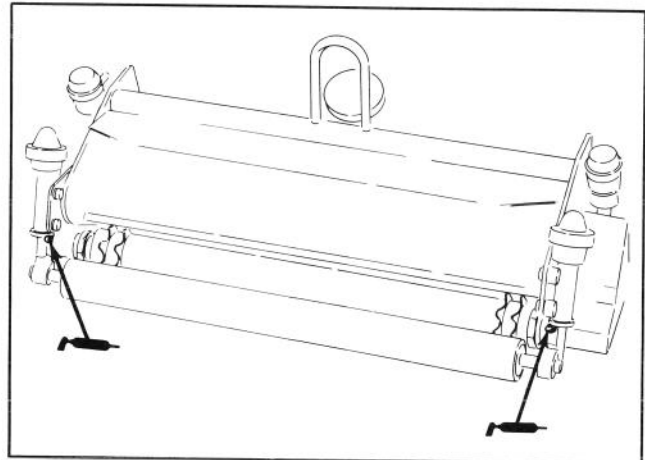

Figure 19
19. Using a hand pump grease gun, lubricate the grooming reel shaft bearings (Fig. 19). Pump only 2-3 pumps maximum to avoid permanently damaging the grease seals.
Lubricate the grooming reel shaft bearings with a hand pump or grease gun (2 or 3 pumps maximum) (Fig. 19). Do not over grease as excess grease may cause seal failure.